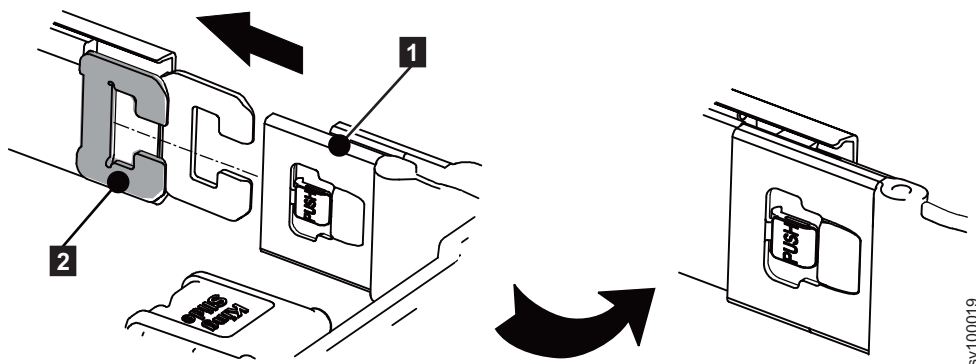

Figure 17. Install the inner member
2. Install the cable-management arm CMA inner connector (1) onto the cable-management arm connector base on the inner member (2) as shown in Figure 17.